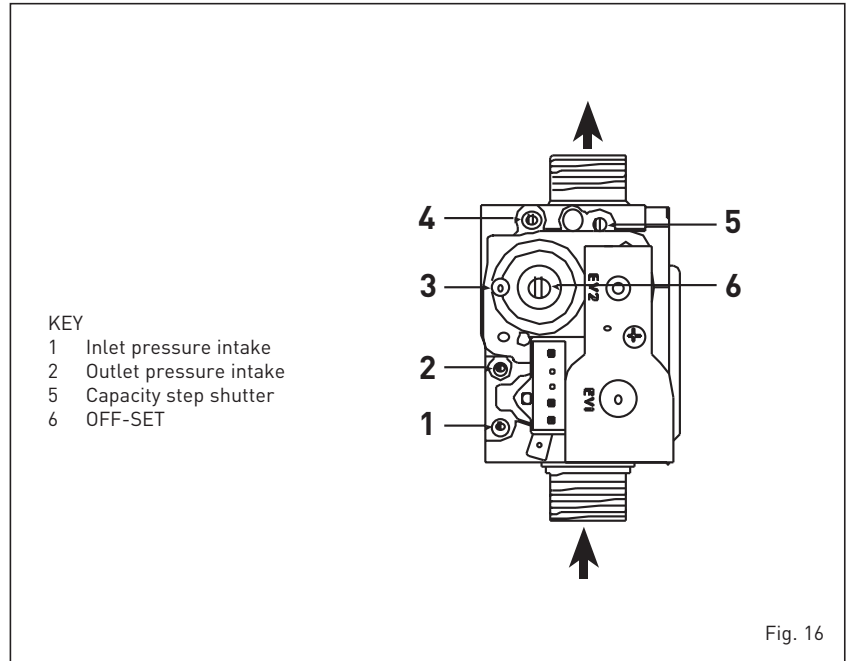

Fig. 16
With the boiler operating in the maximum rate condition check that the operational (working) gas pressure at the inlet gas pressure test point (see fig 16 item 1) complies with the requirements of table 1.3.
If the combustion reading is greater than the acceptable value AND the integrity of the complete flue system, combustion circuit seals have been verified, AND the gas inlet pressure has been verified, AND the boiler parameter settings are correct, proceed as shown in 4.2.2. Any adjustments should be done in small steps and adjustments of no more than 1/8th of a turn should be made, waiting at least 1 minute between adjustments to allow the settings to stabilise. Using the CO2 reading, adjustments should be made to the "OFF-SET" screw (6 fig 16) if it is incorrect at the minimum output, or to the "SHUTTER" (5 fig 16) if it is incorrect at the maximum output.
#### 4.1 GAS VALVE (fig. 16)
The boiler is supplied as standard with the SIT 848 SIGMA gas valve (fig. 16).
3) Identify the CO2 values at max. power by adjusting the shutter (5 fig. 16):
5) Identify the CO2 values at min. power by adjusting the OFF-SET regulation screw (6 fig. 16):